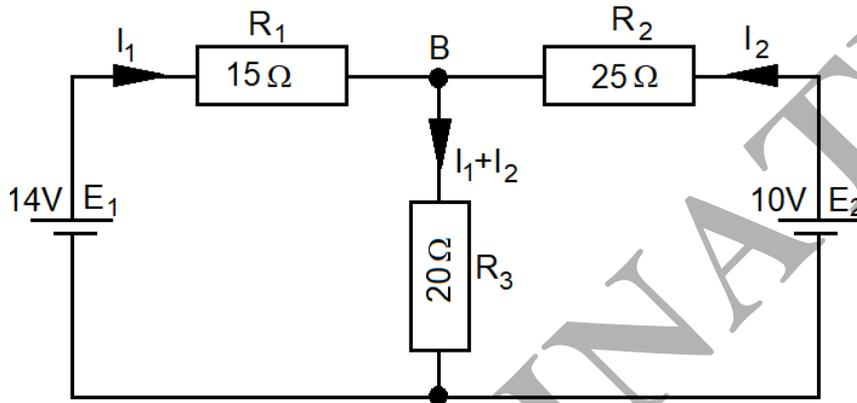

Figure Q6a
- (a) Use Kirchoff's methods to find two loop equations for the circuit of figure Q6a. (6 marks)
Hence find the currents I_1 and I_2 in the circuit of figure Q6a. (6 marks)